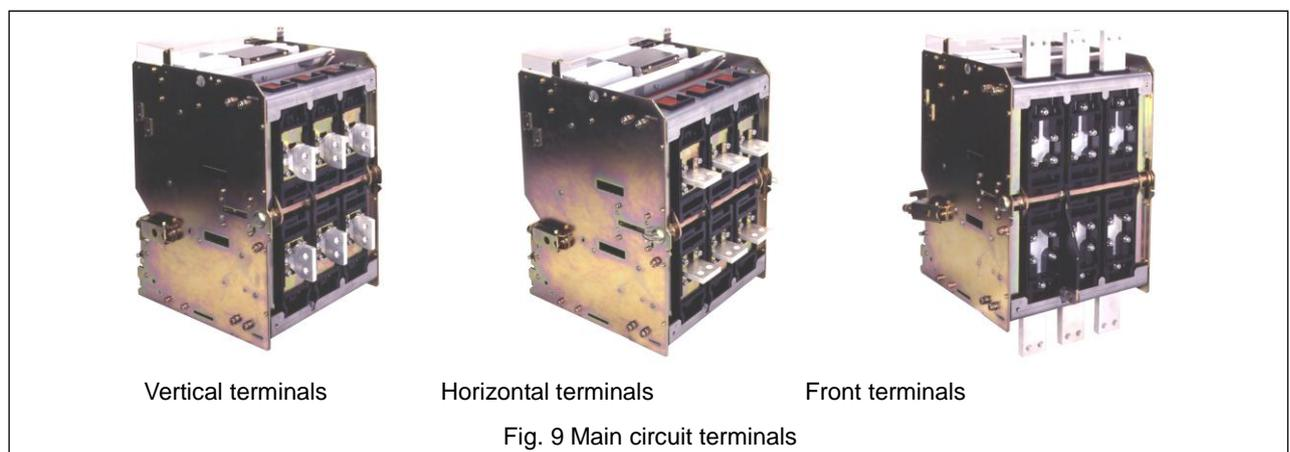

Fig. 9 Main circuit terminals
⑯ Auxiliary switches	Indicate the state of the ACB (ON or OFF). The auxiliary switches are available in 4C configuration (standard), or 7C or 10C configuration (optional). Connections to the switches are made through M4 screw terminals.
⑰ Terminal block	Control circuit terminals ⑮, and auxiliary switches ⑯.
⑱ Ground terminal M8 tapped hole	Allows connection of a ground terminal.
⑲ Main circuit terminals	Allow connections of external conductors. These terminals are available in three configurations as shown in Fig. 9.